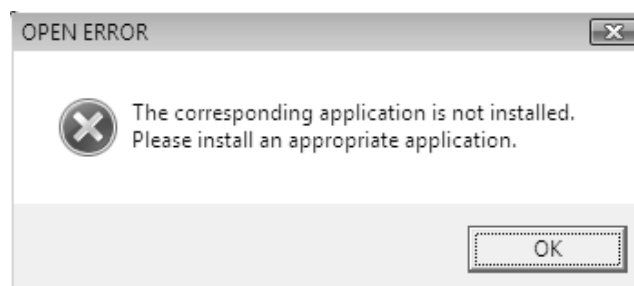

Fig.79
- If the applicable application has not been installed, not the manual, but the open error screen (Fig.79) is shown.